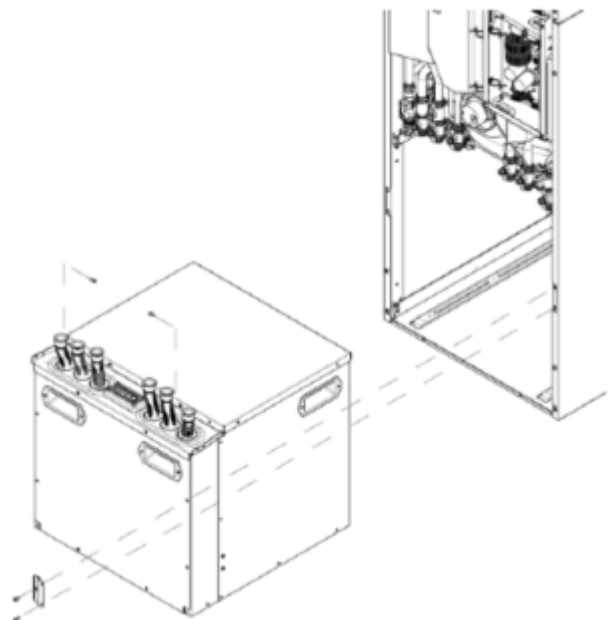

Fig. 63 : Heat Pump Module
5. Remove the metal earthing bracket. See Fig. 63).